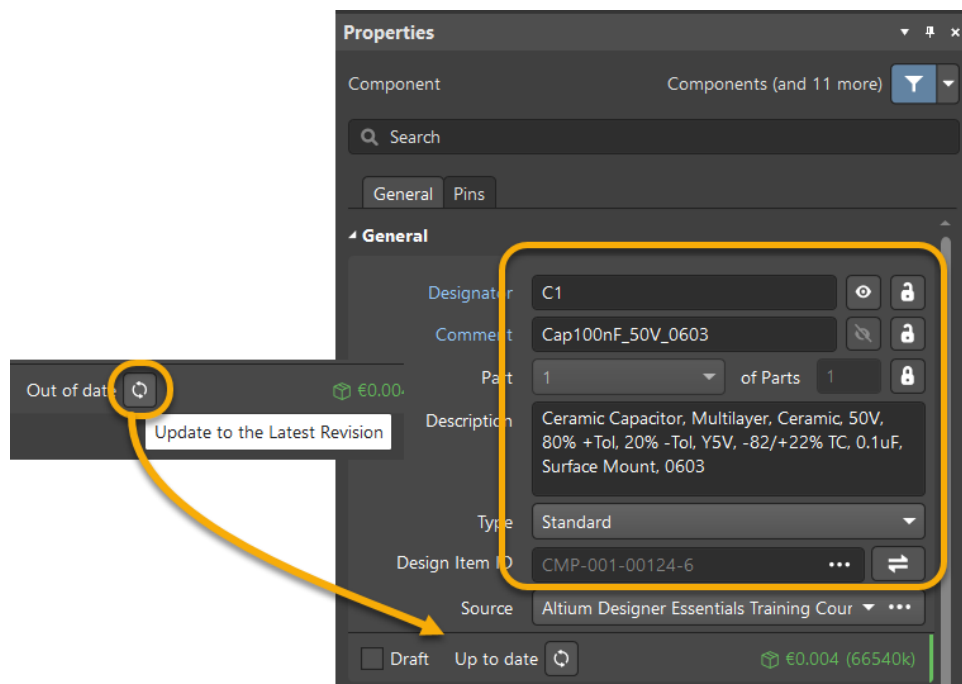

Figure 6. Now Component is Up to Date
28. Refreshing the component will pull the latest revision from the database and update the component, Figure 6.